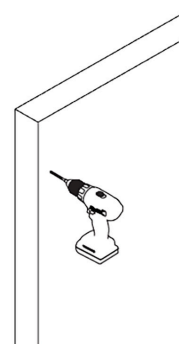

FIGURE 4
Once the Wall Jamb (A) is level, use a pencil to mark the holes for drilling. Depending on the support behind the wall, if unsure, use Plastic Anchors (E) may or may not be required. If you are unsure, use the Plastic Anchors (E) to be safe. If using an anchor, use 1/4" drill bits to drill holes on the specified marks. If wooden support is present and no anchor is required, use 3/16" drill bits to drill holes on specified marks. (See Figure 4)